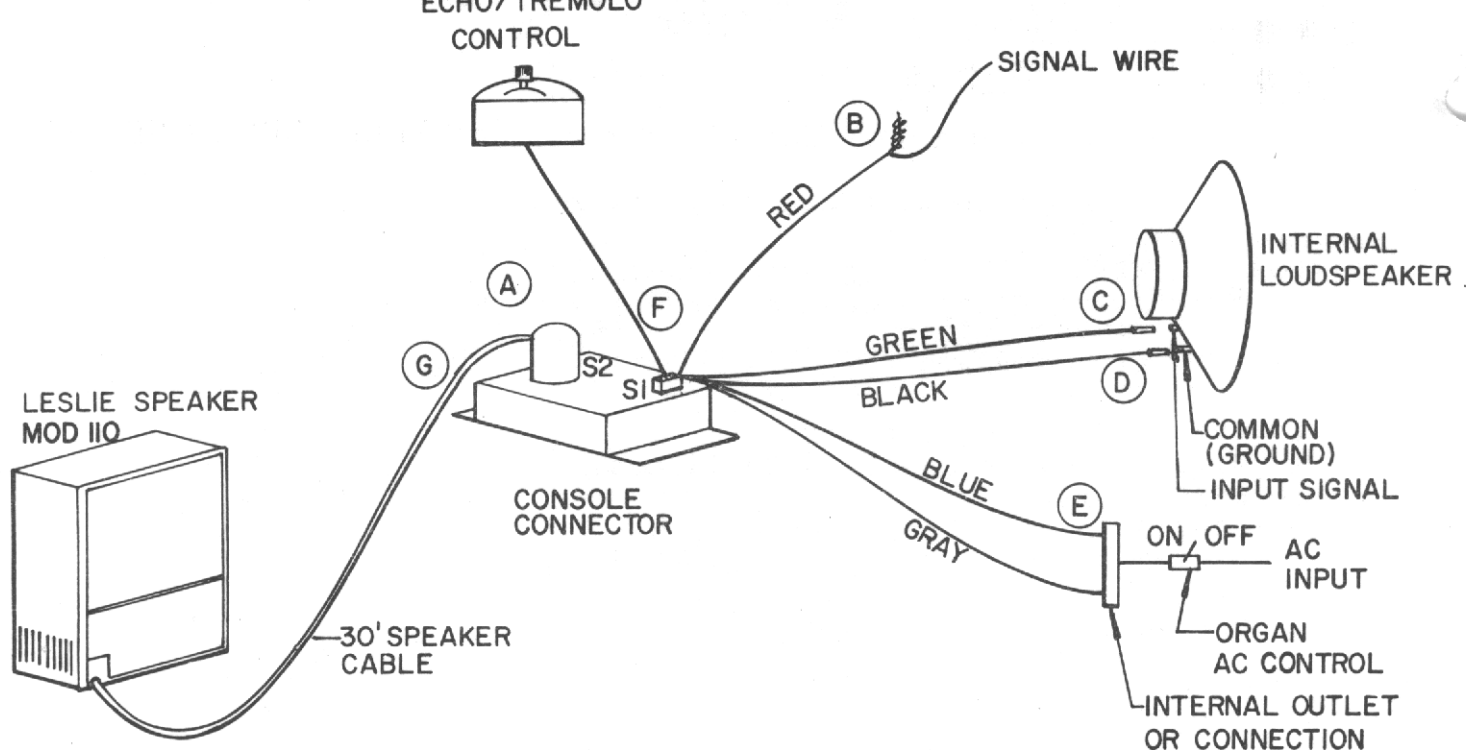
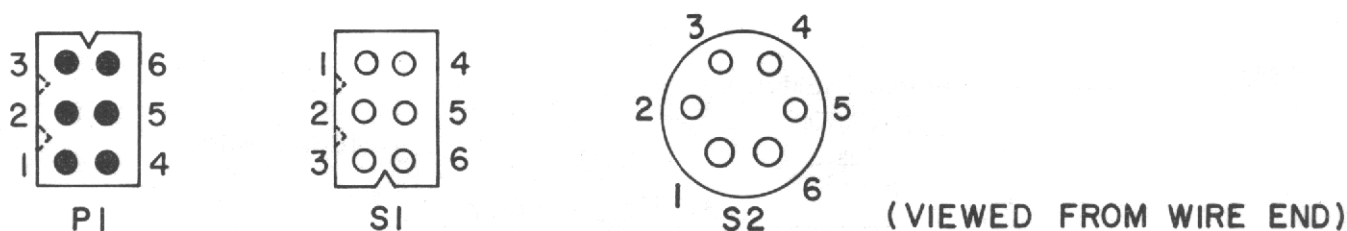

Figure 1. Kit, Organ, and Speaker Interconnections
Figure 2. Plugs and Sockets, 7269 Kit
1. Using the cadmium plated screws, mount the console connector chassis in a location where its red, green, and black wires will reach the terminals of the organ's internal loudspeaker. (See "A" on Fig. 1.) The blue and gray AC wires should reach a switched AC power outlet in the organ (that is, an AC outlet controlled by the organ power switch).
2. Detach the signal wire from the organ's internal loudspeaker. This speaker terminal is usually dotted or marked with a sign. Connect this signal wire to the red wire from the console connector. If necessary clip the lug off the end of the red wire, strip 3/8" insulation, and solder the wires together. (See "B" on Fig. 1.)
3. Attach the green console connector wire to the vacated signal terminal on the organ speaker. If necessary, clip the lug off the end of this green wire and solder the wire to the speaker terminal. (See "C" on Fig. 1.)
4. Attach the black console connector wire to the common terminal on the organ speaker. Some organ speakers have two common terminals. In such cases, the black wire may be connected directly. In cases where only one lug is provided, clip off the black wire's lug, strip 3/8" insulation from the wire end, and solder it to the speaker's common terminal. (See "D" on Fig. 1.)
5. Find a source of switched AC voltage (an AC outlet which is switched on and off by the organ power switch). This may be a standard AC outlet at the rear of the organ, two contacts in an external speaker socket, etc. (See "E" on Fig. 1.)
10. Connect the control cable plug to the matching socket on the console connector chassis. (See "F" on Fig. 1.)
11. Connect the speaker cable to the LESLIE SPEAKER socket on the console connector chassis and the six-pin plug (Fig. 2) at the rear of the Model 110 speaker. (See "G" on Fig. 1.)